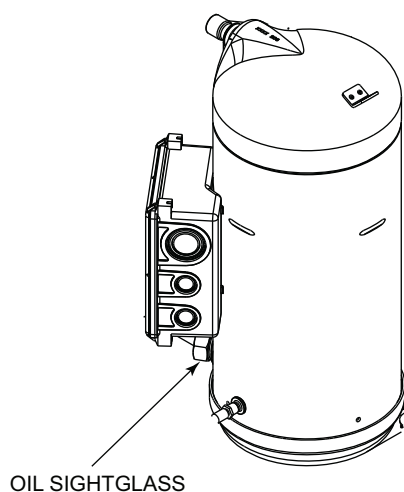

Fig. 25 — Sight Glass Location
5. Oil should be visible in the compressor sight glass(es). See Fig. 25. An acceptable oil level in the compressors is from $\frac{1}{8}$ to $\frac{3}{8}$ of sight glass when the compressors are off. Adjust the oil level as required. See Oil Charge section on page 53 for Carrier approved oils.